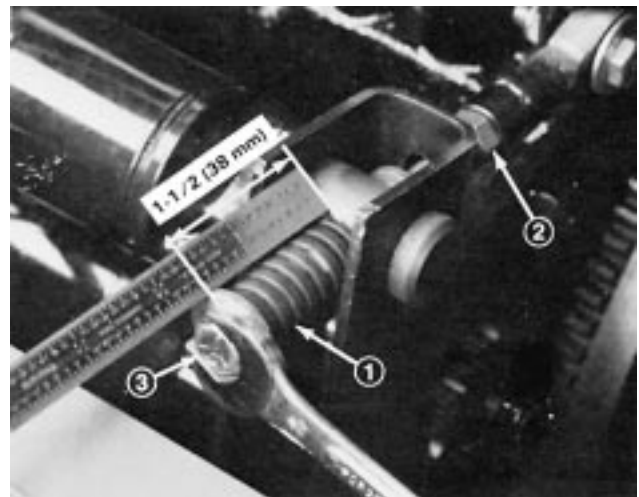
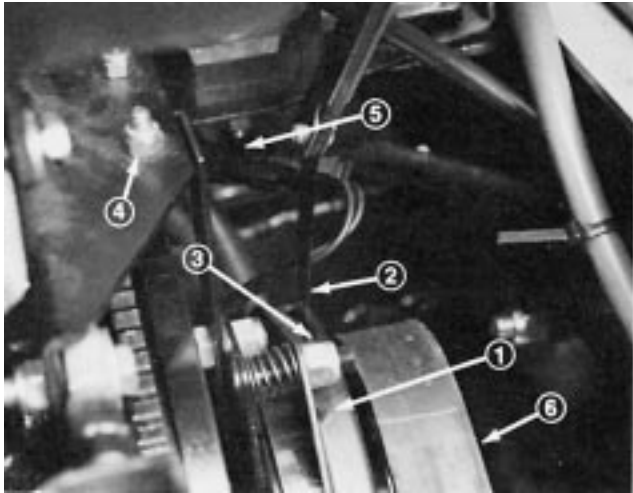

Figure 38
Figure 39
2. Loosen the tensioning rod jam nut (Fig. 38).
3. Use a 1/2" wrench to tighten or loosen the belt tensioning spring (Fig. 38). Adjust spring to a length of 1-1/2" (38 mm).
3. Using a 1/2" wrench, loosen the belt tensioning spring (Fig. 38) all the way.
4. Rotate PTO pulley toward the engine and remove the belt (Fig. 39).
5. Install the new PTO belt and re-tension the pulley spring to 1-1/2" (38 mm) (Fig. 38).
6. Tighten the jam nut (Fig. 38) and close the hood.
2. Remove the left hand clutch retainer bracket nut and bolt so that the retainer bracket rubber bumper can be removed (Fig. 39).
3. Unplug clutch electric connector (Fig. 39).
4. Adjust the air gap so that a .015 inch feeler gauge slides in between the clutch lining and friction plate with light pressure (Fig. 39). The gap can be decreased by turning the adjusting nut clockwise (Fig. 38).